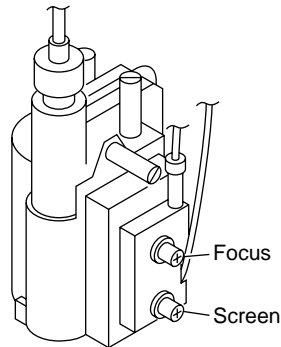

Fig.3-9
- Focus adjustment should be balanced whole picture area (not detail), and adjust focus by [FOCUS] VR of FBT. (Fig.3-9)
- Magenta ring should be within limit sample. (Fig.3-9)
- Adjust to obtain just before retrace line goes out (The point where the retrace line is going to appears). (Fig.3-9)